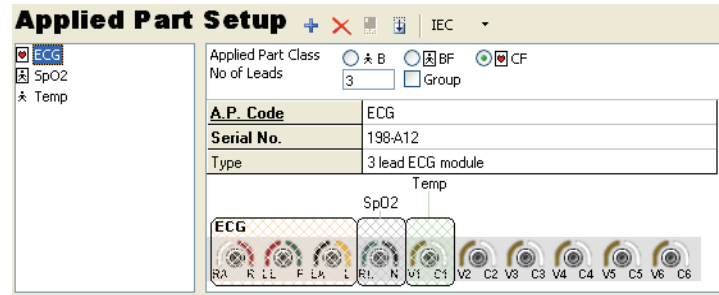

Figure 3-8. Sample Applied Part Setup Screen
3. Select the appropriate applied part class, the number of patient leads, and enter a applied part code for each applied part tested. Figure 3-8 shows a sample applied part